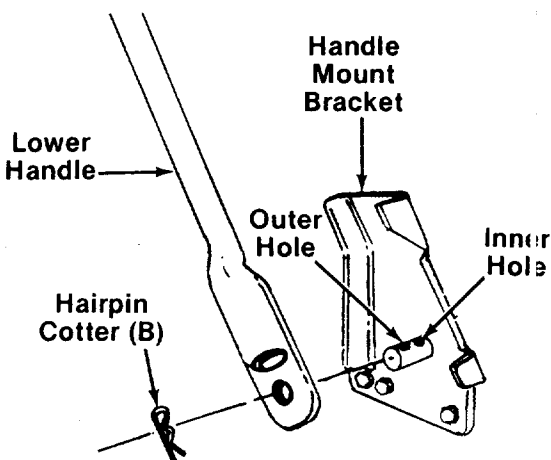

FIGURE 2.
- B (2) Hairpin Cotter
- C (2) Lock Washers 5/16" I.D.
- D (2) Hex Nuts 5/16-18 Thread
- E (1) Curved Head Carriage Bolt
- F (2) Cable Ties
- G (2) Cable Anchors
- H (2) Plastic Plugs
- I (1) Cable Clamp (Not Shown)
3. Attach the lower handle by placing the bottom holes in the lower handle over the weld pins on the handle mount brackets. Make certain the instruction label on the lower handle can be read from the operating position. Secure with hairpin cotten (B) in inner holes on weld pins. See figure 2.